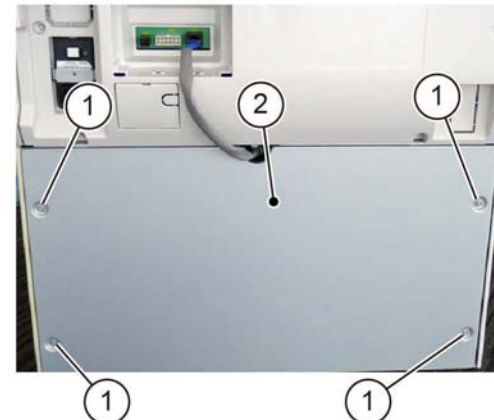

Figure 1 ESD Symbol
1. Remove the rear cover, Figure 1:
- a. Remove four screws (1).
- b. Remove the rear cover (2).